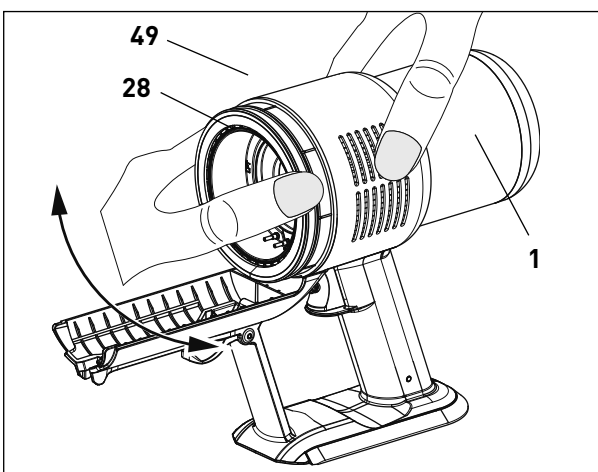

Figure 20
Hold the suction unit (1) firmly and rock the rim of the micro-hygiene filter housing (49) back and forth while pulling (figure 20). Replace filter with open notch to the bottom.